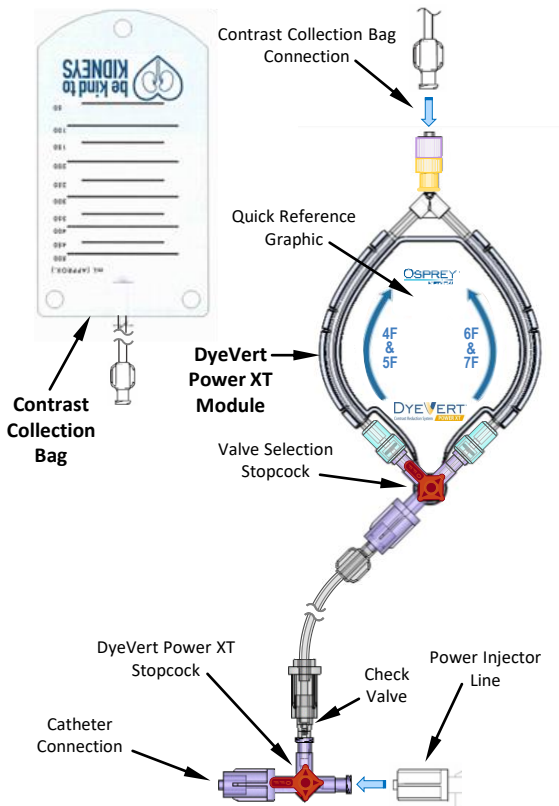
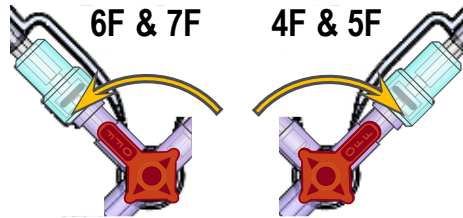

Figure 1 – Device Assembly and Components
Figure 4 – DyeVert Valve Selection Stopcock
- 3) Attach the female luer of DyeVert Power XT stopcock to the male luer at the end of the power injector line. (See Figure 1)
- 4) Ensure DyeVert Power XT stopcock is oriented OFF towards the Catheter Connection and ON to the *Valve Selection Stopcock*. (See Figure 1)
- 8) Attach Contrast Collection Bag to the luer fitting located at the distal end of the DyeVert Power XT. (See Figure 1)
- a. Based on the catheter size being used for the procedure and consistent with the fluid flow shown in Figure 1, orient the *Valve Selection Stopcock* to the corresponding "4F & 5F" or "6F & 7F" position. (See Figure 4)